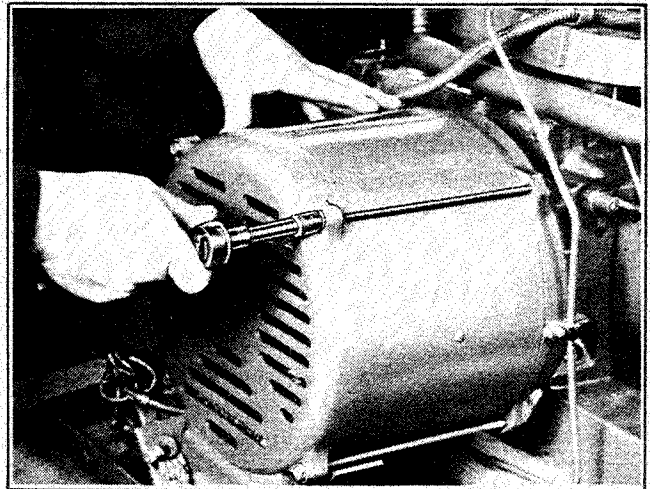

Figure 8-7. Removing Overbolts
14. Remove four overbolts securing generator end bracket. Figure 8-7.